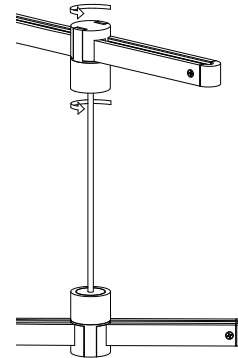

Fig. 7
4. Rotate Power Bar to the desired position and secure by fully tightening the Hanger sleeve. (Fig. 7)